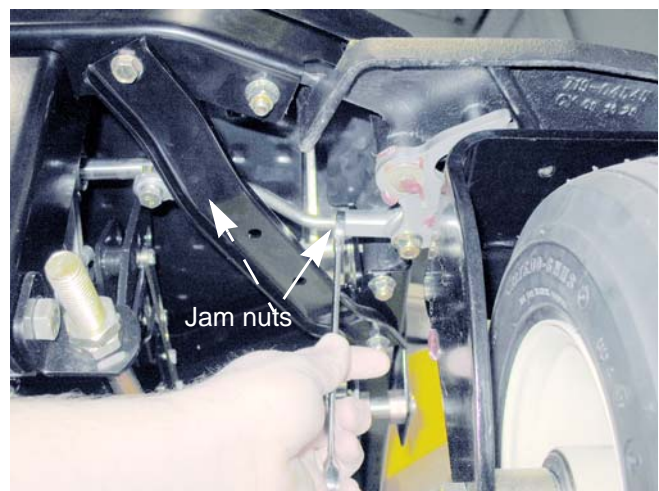

Figure 6.90
4. Loosen the jam nuts on both ends of the tie rod using a 9/16" wrench. See Figure 6.90.